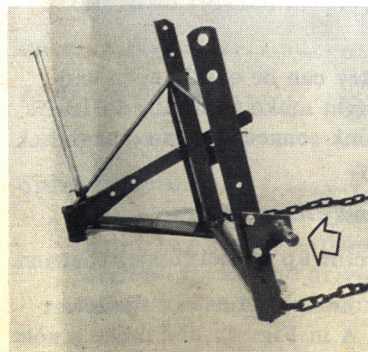

Fig. 3. The supporting pins facing forward in the centre position.
- Mount the supporting pins on the frame, cf. Figs. 3 and 4.